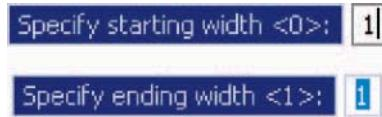

Fig. 3.28 Dynamic Input – first example – Polyline – entering widths
4. Another prompt field appears. At the keyboard *enter* the required width and *right-click*. Then *left-click* and *enter ending width* or *right-click* if the **ending width** is the same as the **starting width** (Fig. 3.28).